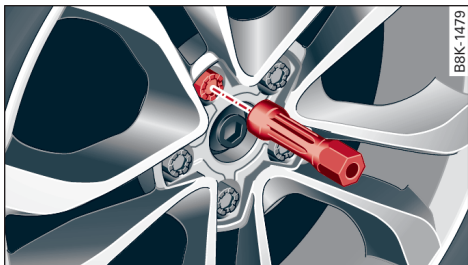

Fig. 175 Wheel: Hexagonal socket for turning wheel bolts
- Using the hexagonal socket in the screwdriver handle (provided in the vehicle toolkit), unscrew the top wheel bolt and place it on a clean surface ⇒ Fig. 175.